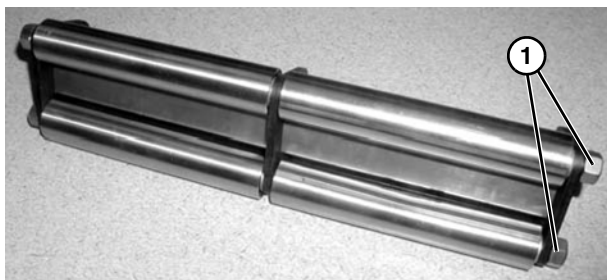

Figure 50
- Remove hex nuts (**Figure 50, item 1**).